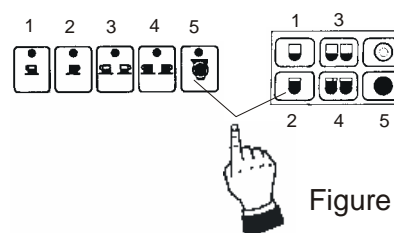

Figure 4
**MODELLO AUTOMATICO ELETTRONICO (Fig. 4)**